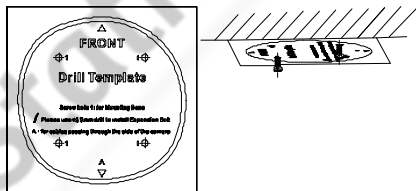

Figure 2-39 Attach the Drill Template
3. Insert two PM4×10 screws into the ceiling, as shown in Figure 2-39.